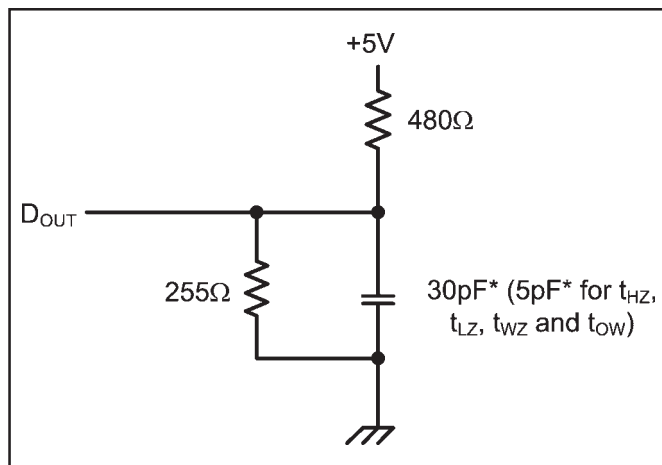

Figure 1. Output Load
7. Transition is measured  $\pm 200mV$  from steady state voltage prior to change with specified loading in Figure 1. This parameter is sampled and not 100% tested.
- Transition is measured  $\pm 200mV$  from steady state voltage prior to change with specified loading in Figure 1. This parameter is sampled and not 100% tested.
Output Load	See Figures 1 and 2